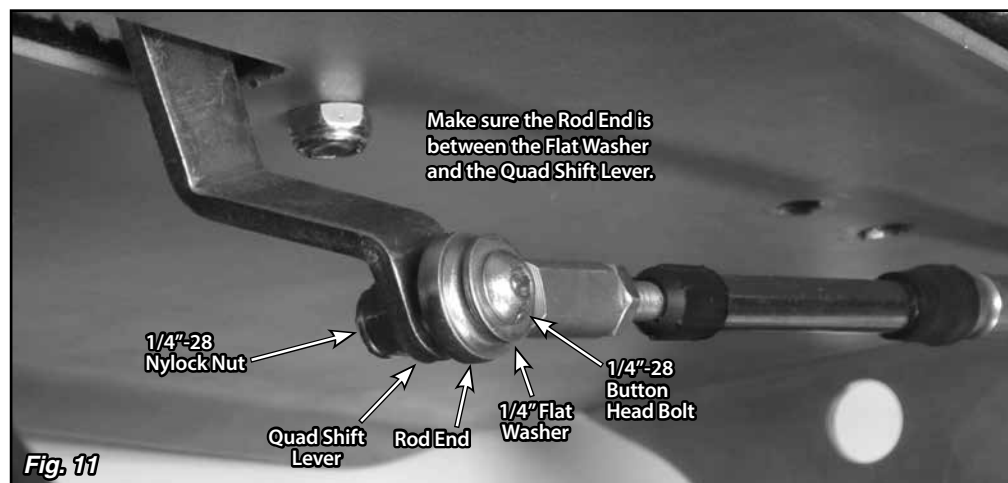

Fig. 11
Step 16: Route the cable up to the shifter. Adjust the position of the other rod end so it is aligned with the hole in the quad shift lever. Attach the rod end to the quad shift lever using a 1/4"-28 x 1" button head bolt, flat washer, and nylock nut. **Fig. 11** The button head bolt can be installed from either direction, but make sure the rod end is sandwiched between the quad shift lever and the flat washer. When routing the cable, make sure it is not touching the exhaust or any moving parts. The cable should be routed as smoothly as possible without any sharp bends.